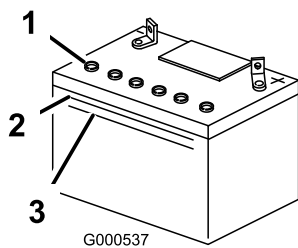

Figure 44
2. Look at the side of the battery. The electrolyte must be up to the Upper line (Figure 44). Do not allow the electrolyte to fall below the Lower line (Figure 44).
3. Remove the vent caps from the battery (Figure 44).
4. Slowly pour distilled water into each battery cell until the electrolyte level is up to the Upper line (Figure 44) on the battery case.
5. Wait five to ten minutes after filling the battery cells. Add distilled water, if necessary, until the electrolyte level is up to the Upper line (Figure 44) on the battery case.